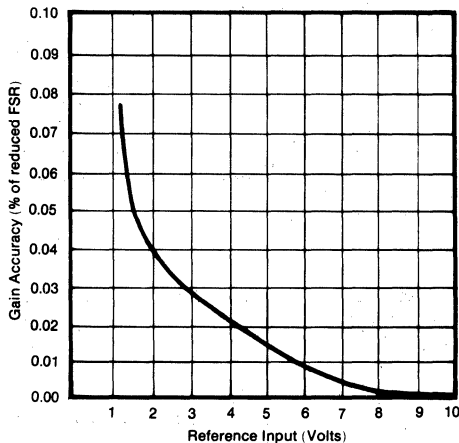

FIGURE 2. Gain Accuracy vs Reference Voltage.
8. For 1VDC reference voltage (see Figure 2). Full Scale Range = 1V.
The output of the DAC10HT is the product of the reference input and digital input values. The reference may be an AC signal and can vary from 0 to +10 volts. This is useful in applications where digitally programmed attenuation of a signal is desired. Because the reference voltage input must be positive, the DAC10HT multiplies in two quadrants only. For highest accuracy the input reference voltage should be as high as possible (see Figure 2).